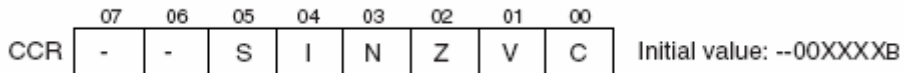

Figure 2-3, Condition Code Register.
The CCR (Condition Code Register), see figure 2-3, contains six (6) single bit flags that are used to keep track of conditions which occur during instruction execution.